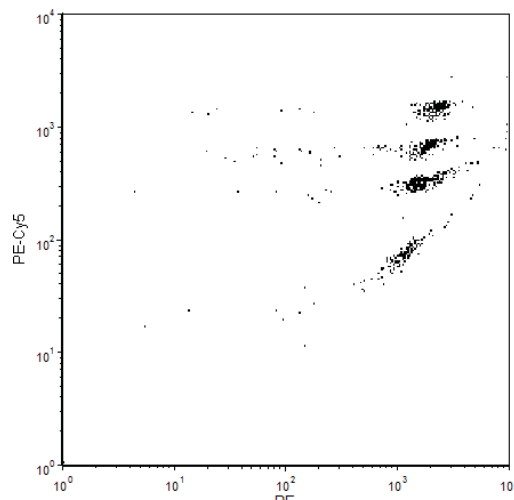

Figure 3
1) Verify all the bead populations on the PE-axis are on scale (Figure 3).